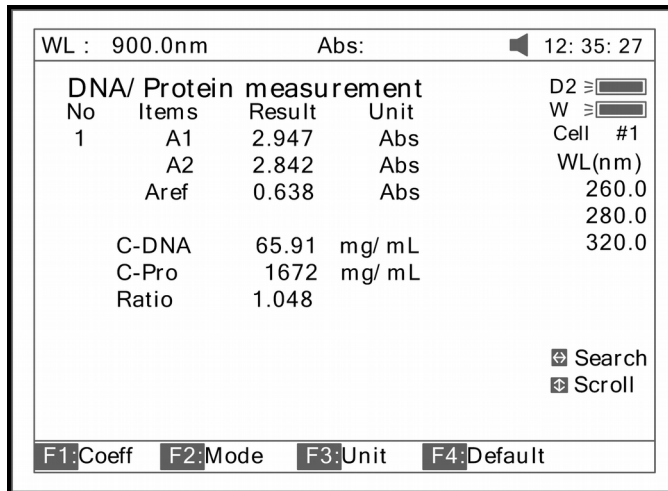

Fig 65
5. Pull the sample cuvette into Main Light Path, press **(START)** to test the sample. The test result will be displayed on the screen (Fig 65).